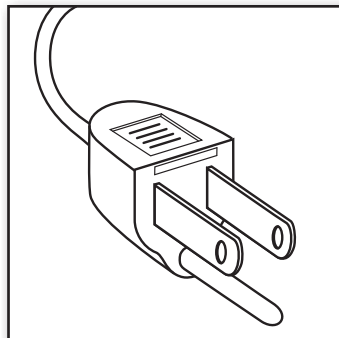

Figure 3
1. Grasp plug and remove from the receptacle or other outlet device. Do not unplug by pulling on cord. Locate the door on top of the plug. Figure 3.